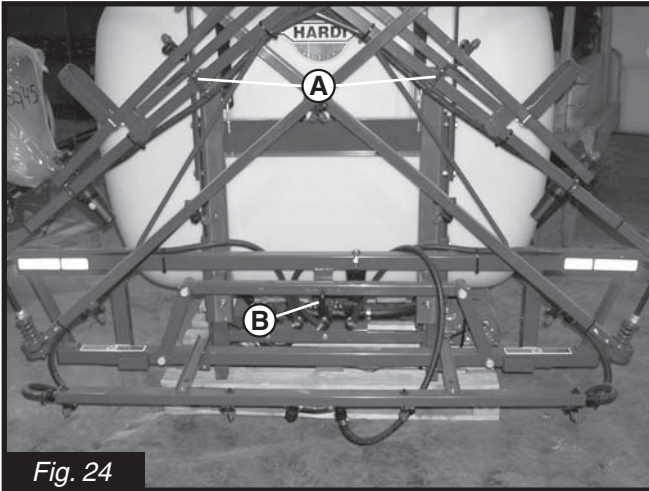

Fig. 24
1. Remove transport lock pins **A** (Fig. 24) and swing boom into operating position. Store transport lock pins in original locations so they don't get lost.
3. Remove trapeze lock pin **B** (Fig. 24) to allow for self-leveling boom feature (40' MB boom only).
1. Replace trapeze lock pin **B** (Fig. 24) in center position (40' MB boom only).
3. Remove transport lock pins **A** (Fig. 24) and fold boom into transport position. Secure with transport lock pins **A** (Fig. 24).